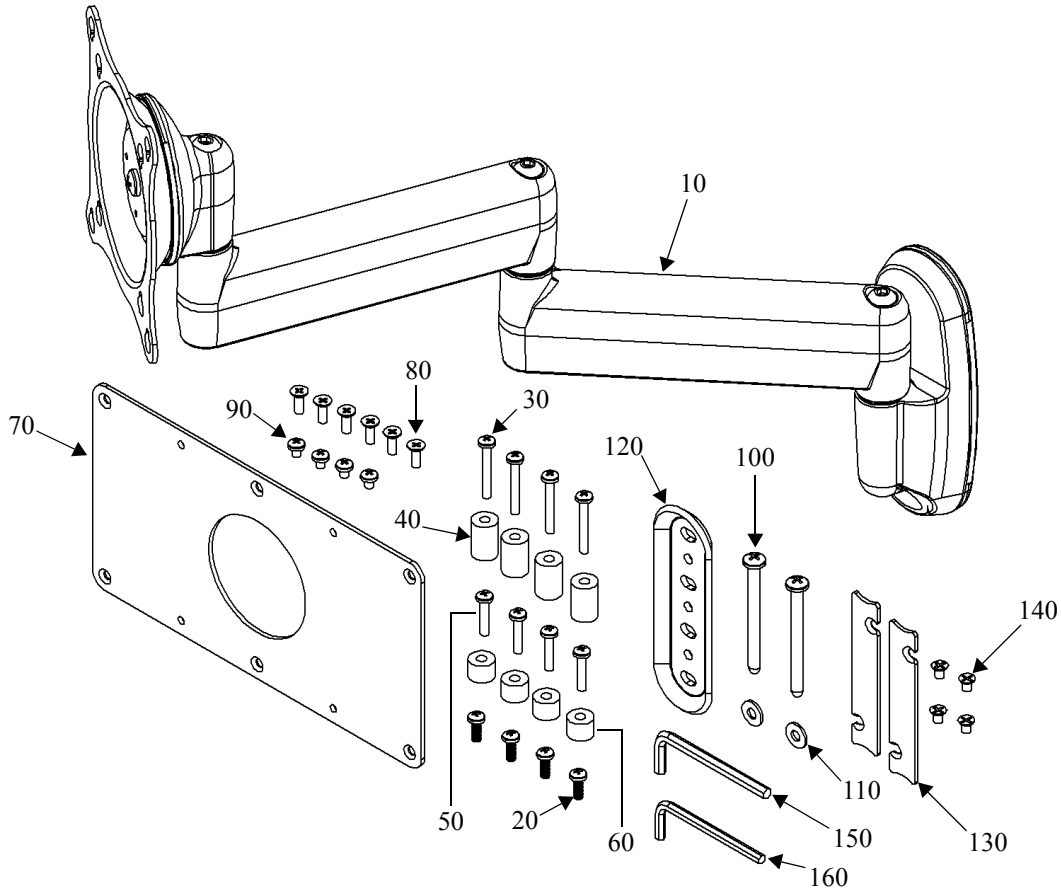

Figure 1. MSP-SA Components
2. Lay out components to ensure you have all the required parts before proceeding (refer to Figure 1 on page 4).